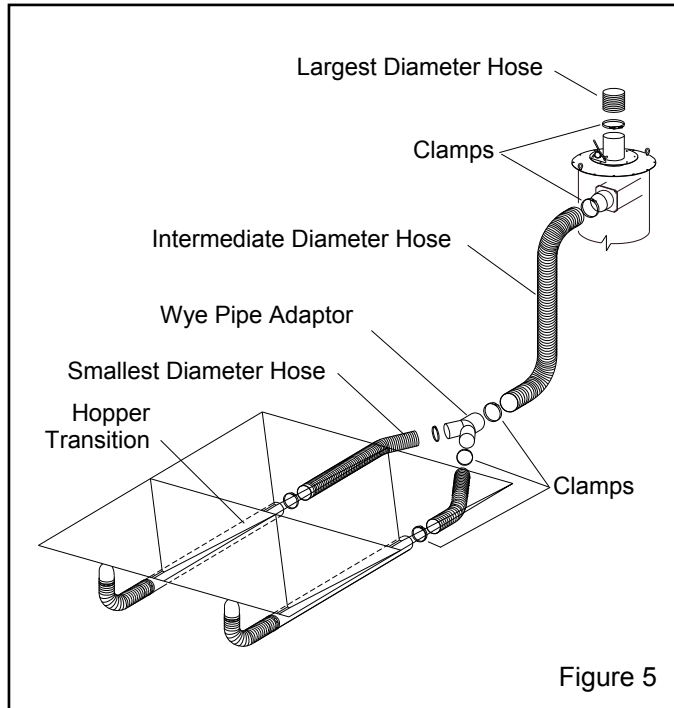

Figure 5
2.2 Connect Conveying Hose, Figure 5